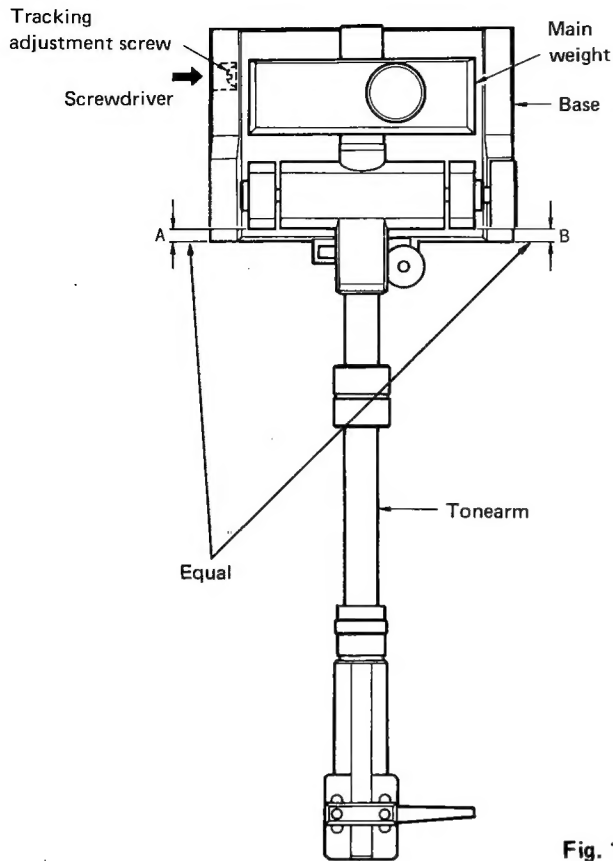

Fig. 14
- 11) Position the tonearm so the space "A" and "B" are equal to each other as shown in Fig. 14 below.